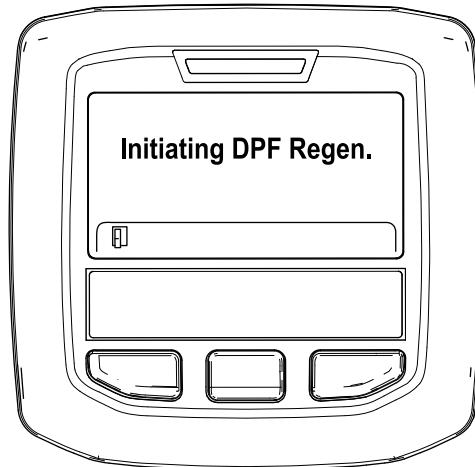

Figure 47
A. The “Initiating DPF Regen.” message displays (Figure 47).